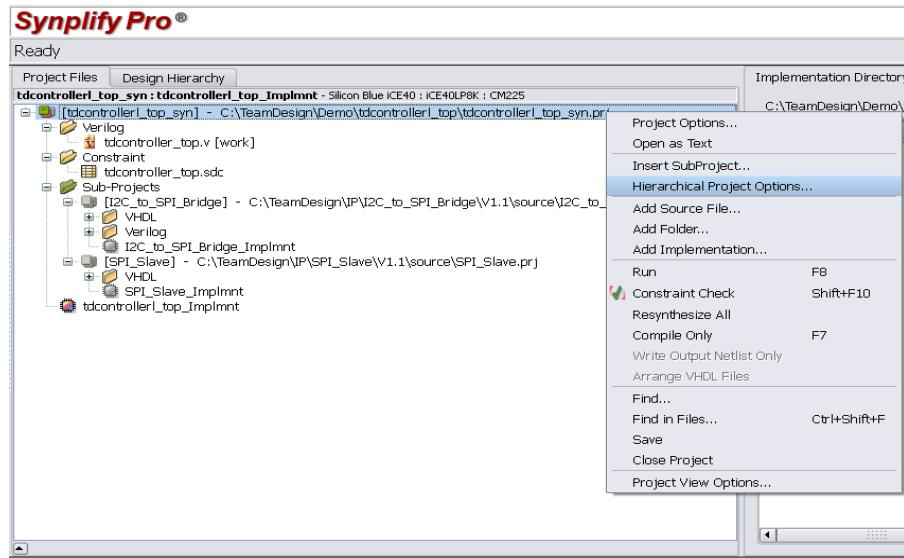

Figure 9-10 : Select Hierarchical Project Options Menu
1. In the Synplify Pro tool, select the top level project and right click on it. Select “Hierarchical Project Options” as shown in Figure 9-10.